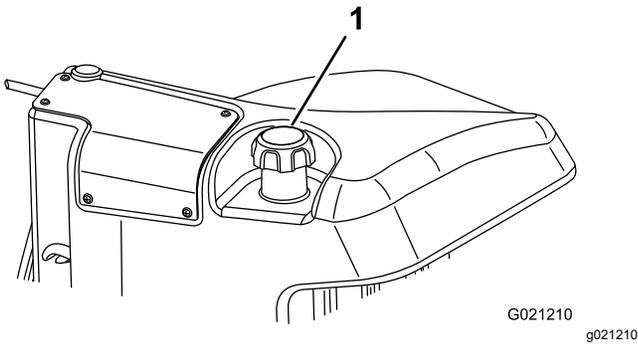

Figure 42
3. Remove the cap from the fuel tank (Figure 42).